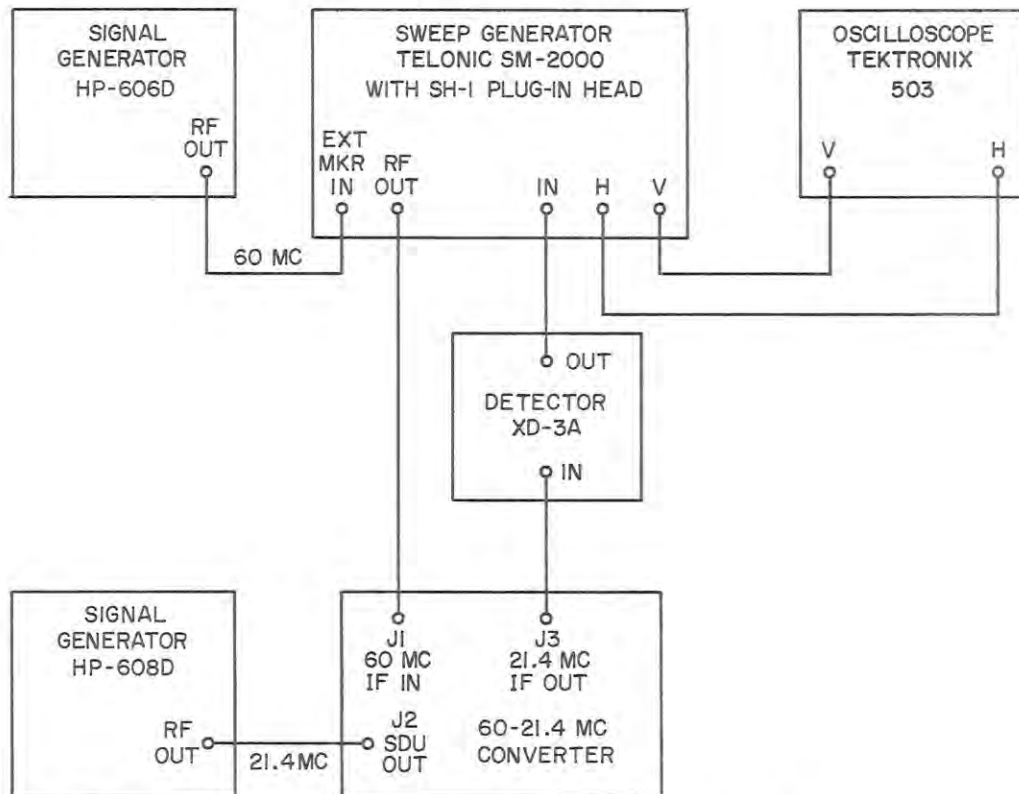

Figure 5-8. 60-21.4 Mc Converter Module Alignment, Test Set-up.
- (2) 60 to 21.4 Mc Converter, CV-204-4, Alignment
- b. Connect test equipment as shown in Figure 5-8.